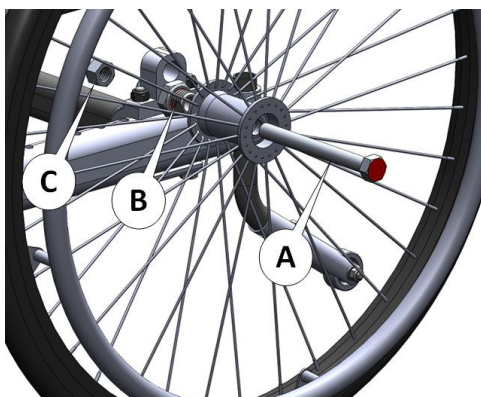

Figure 12 : Rear Wheel Installation
1. Insert the positioning device **B** in the hole corresponding to the desired height (Figure 12);